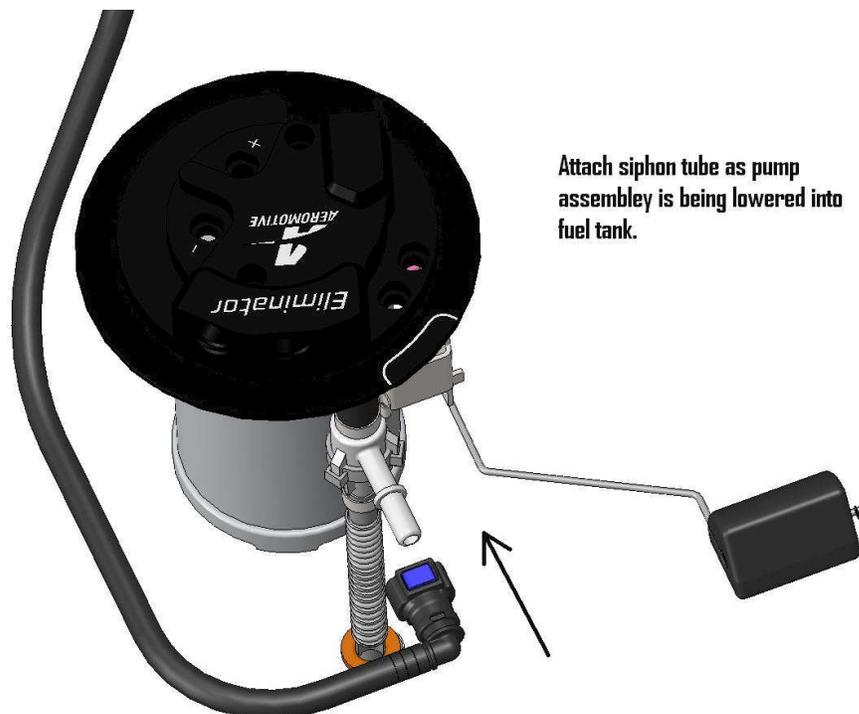

FIGURE 1-7
17. Now the fuel pump is ready to install in the tank. The siphon connection has to be made as the fuel pump is being lowered into the fuel tank. **FIGURE 1-7.** **NOTE: Bend the flex hose with the orange check valve on the Aeromotive pump assembly, so it points toward the float level.**